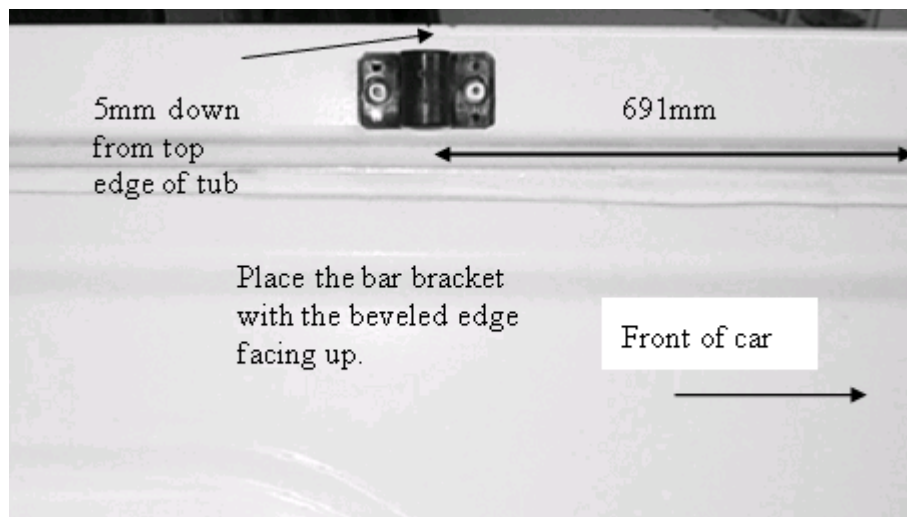

Figure 2
5. With a pencil mark the inside edge on each side of the tub at 691mm from the inside front face of tub towards the rear on each side. Centrally locate the bar bracket over this position and align the top of the bar bracket 5mm down from the top edge of the tub and drill and rivet bracket into place. See Figure 2. Repeat for other side of tub. Fit tonneau support bar to bar brackets.